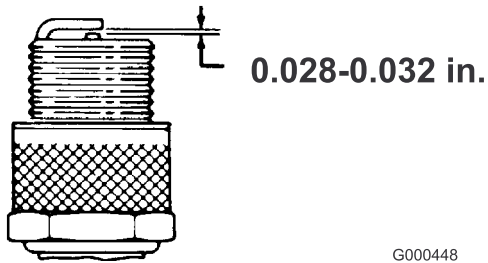

Figure 26
- Set the air gap at 0.028 to 0.032 inch (0.05 to 0.07 cm) (Figure 26).